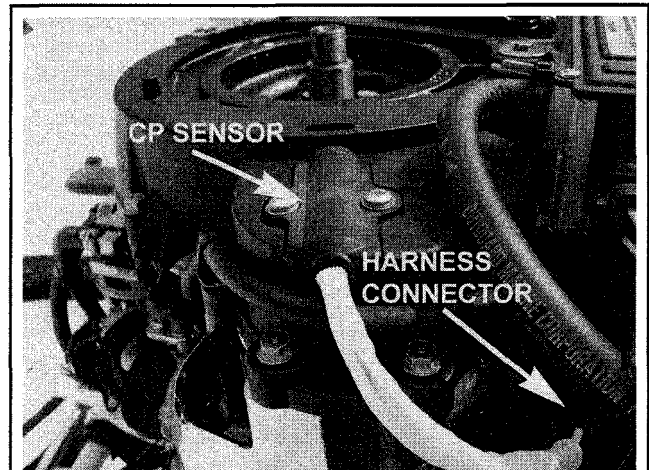

Fig. 242 For function purposes, the CP sensor must be mounted near the flywheel—75—175 hp models without fuel rails shown
◆ See Figures 242 and 243
- ◆ See Figures 242 and 243
- ◆ See Figures 242, 243 and 244